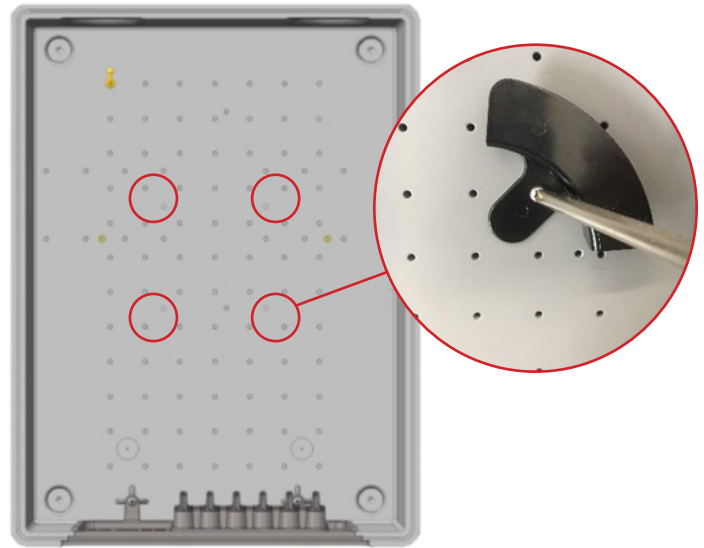

Figure 1
1. Place all 4 of the fiber management radius limiters onto the Flex Box, in the designated holes as shown in **(Figure 1)**.